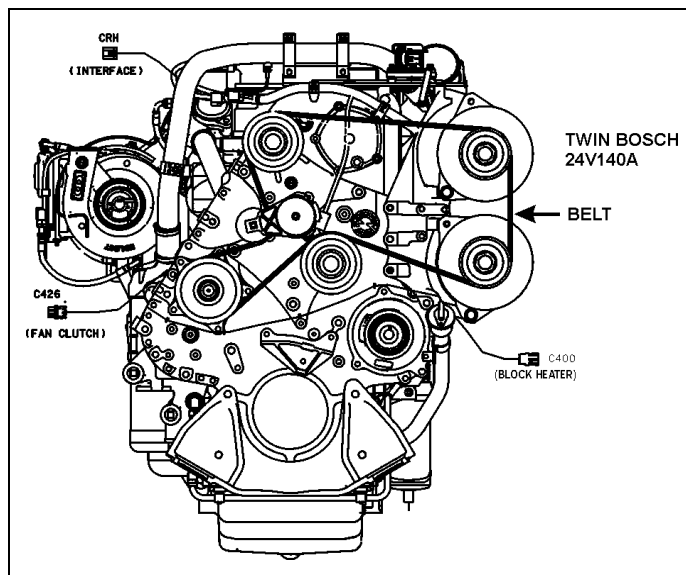
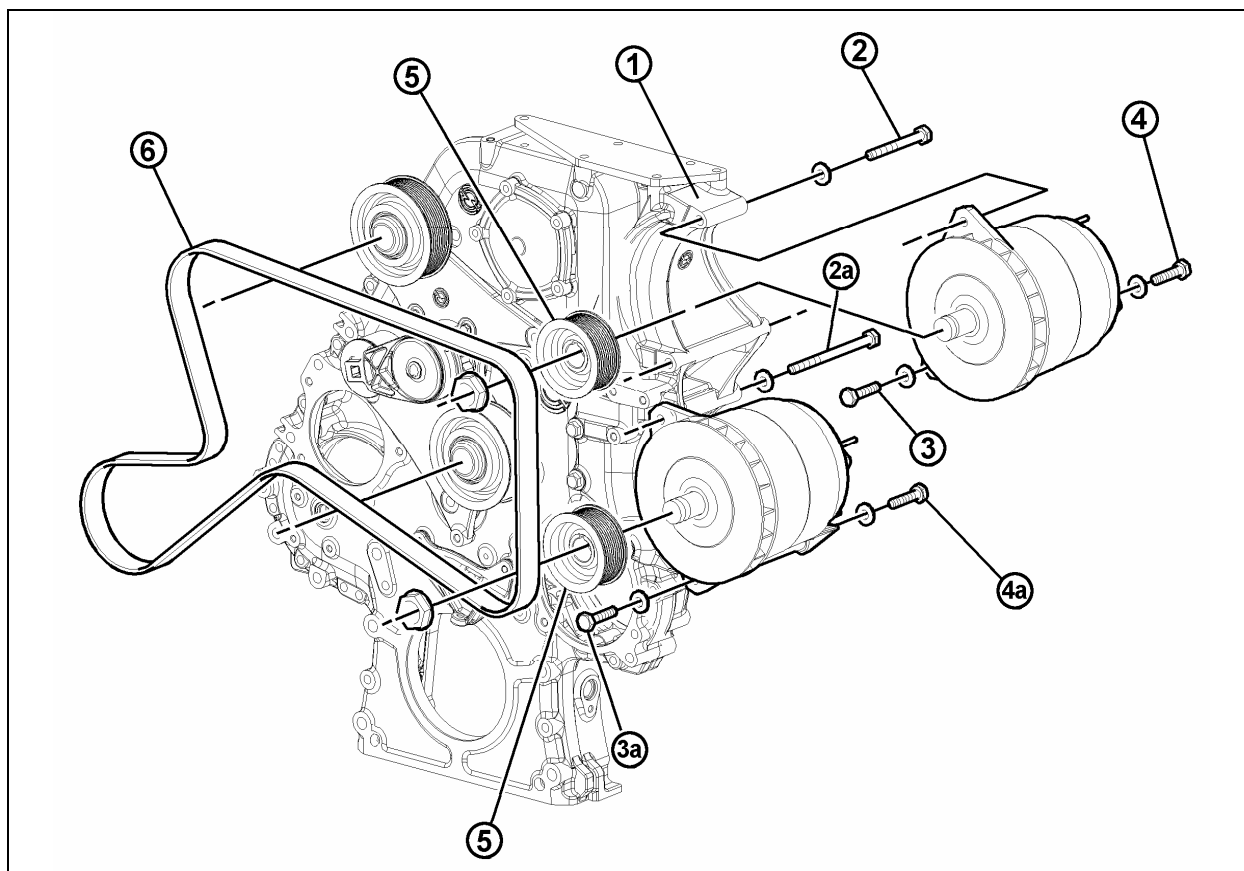

FIGURE 18: ALTERNATOR DRIVE BELT
FIGURE 19: TWIN BOSCH ALTERNATORS INSTALLATION (DDEC SERIES 60)
If the alternators needed to be removed, reinstall as follows. Refer to figure 18 for installation and to figure 19 for tightening specifications:
1. Install alternator mounting bracket (1, figure 19) to the gear case. Use the four flanged phosphor alloy bolts on the pulley end of the bracket and the flanged nuts at the transmission end of the bracket;
2. Bolt the upper alternator to the bracket using the 4 inch bolt at the top (2, fig 19) and two inch bolts at the lower mounting bosses (3 and 4, figure 19). Bolt the other alternator using the 6 inch bolt at the top (2a, fig 19) and two inch bolts at the lower mounting bosses (3a and 4a, figure 19);
3. On the drive shafts of both alternators, install key, pulley, spring washer and nut (5, figure 19);
6. Install alternators belt (6, figure 19).
1. Insert a 3/4" socket drive into the automatic belt tensioner opening (Fig. 18).